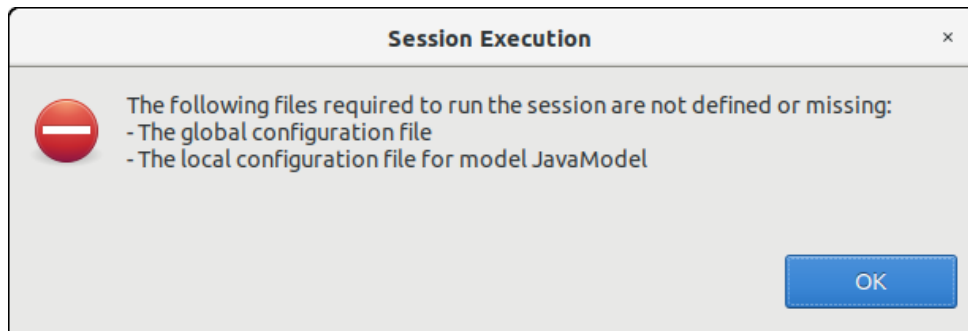

Figure 4-121: Execution prevented due to missing configuration files
- If the global configuration file for the simulation, or the local configuration file of any active module in the simulation is missing, the execution will not proceed, and a dialog will be displayed listing the missing files as shown in Figure 4-121.